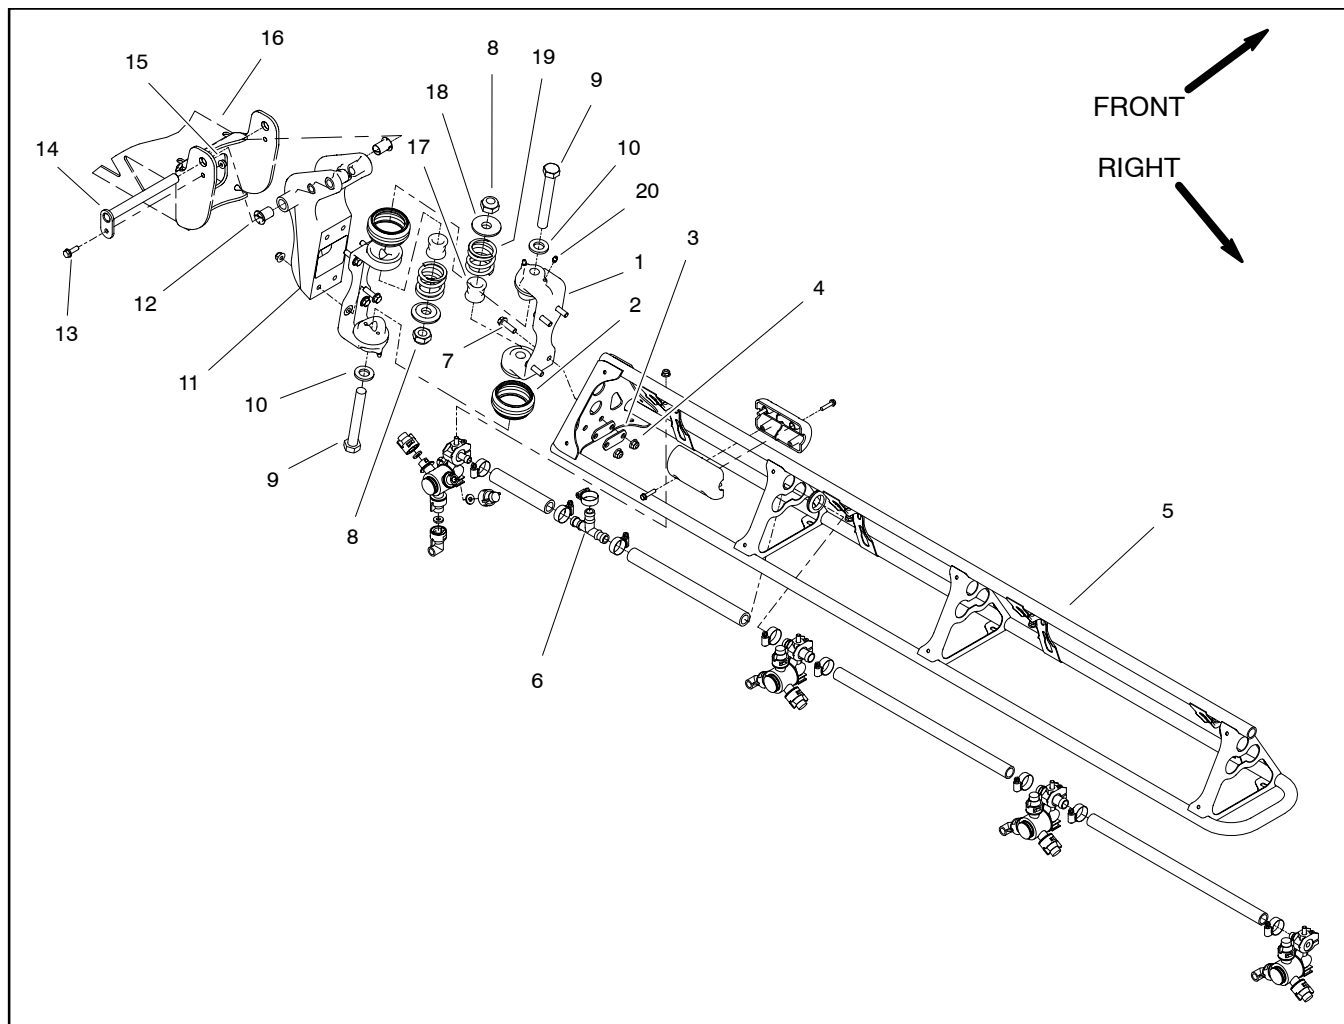

Figure 41
Disassembly (Fig. 41)
2. Loosen hose clamp and remove supply hose from tee fitting (item 6) on spray boom.
4. Loosen two (2) cap screws (item 9) and lock nuts (item 8) to allow breakaway springs (item 18) to fully extend.
5. Complete disassembly as required using Figure 41 as a guide. If pivot bracket (item 11) is to be removed from machine, disconnect boom actuator (not shown) from pivot bracket (see Boom Actuator Removal (Machines with Serial Numbers Above 26000000) in this section).
Assembly (Fig. 41)